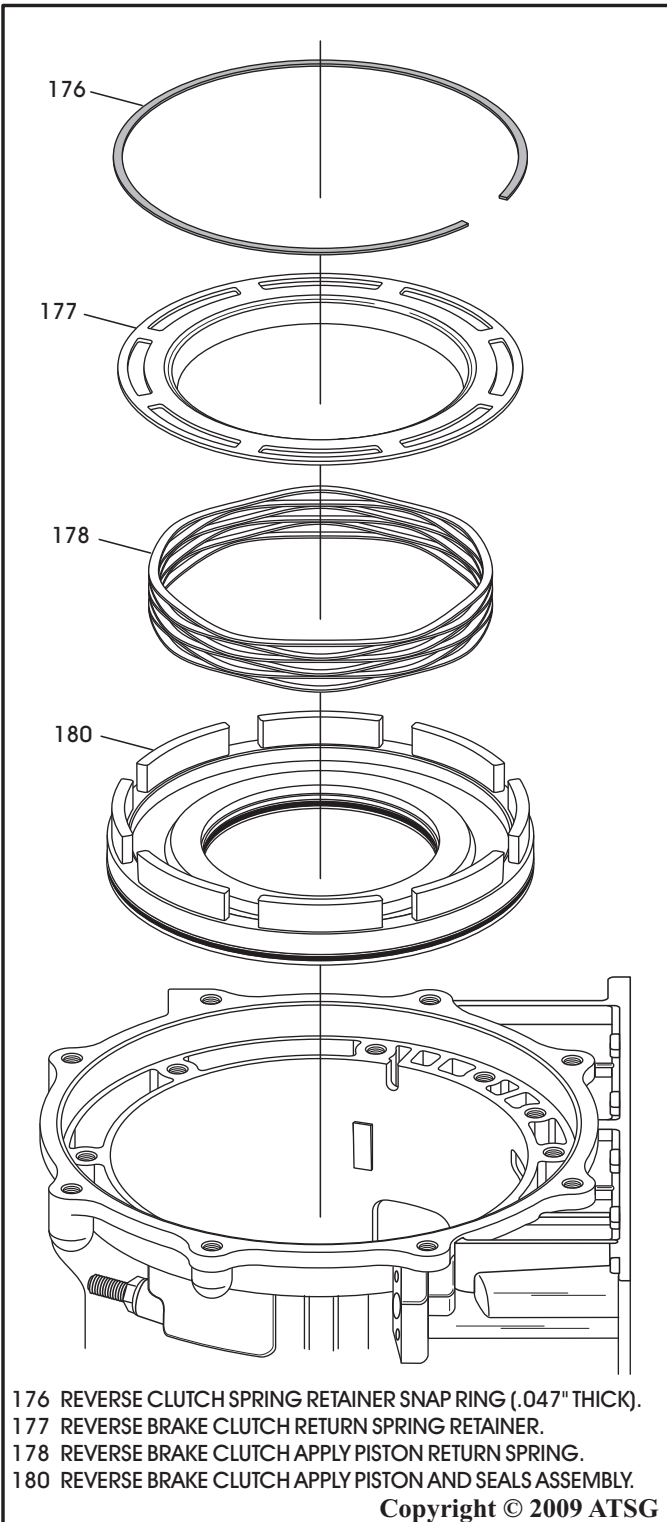

Figure 59
54. Compress reverse brake clutch piston return spring and remove the snap ring, as shown in Figure 59.
56. Remove reverse brake clutch return spring retainer, as shown in Figure 59.
57. Remove the reverse brake clutch return spring, as shown in Figure 59.
58. Remove the reverse clutch brake apply piston, as shown in Figure 59.